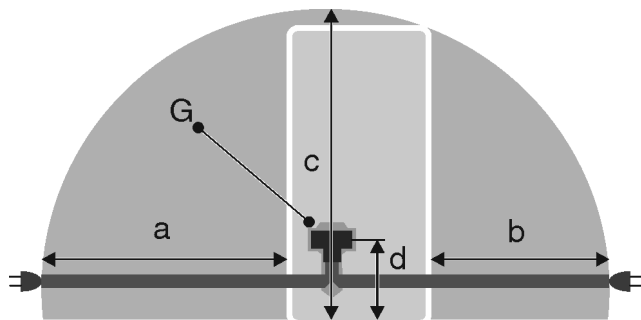

Fig. 20 *
- The socket is not located behind the appliance but in areas a or b Fig. 20 (a, b, c).
- ▶ Insert the appliance plug Fig. 20 (G) on the rear side of the appliance. Ensure that they latch into place correctly.